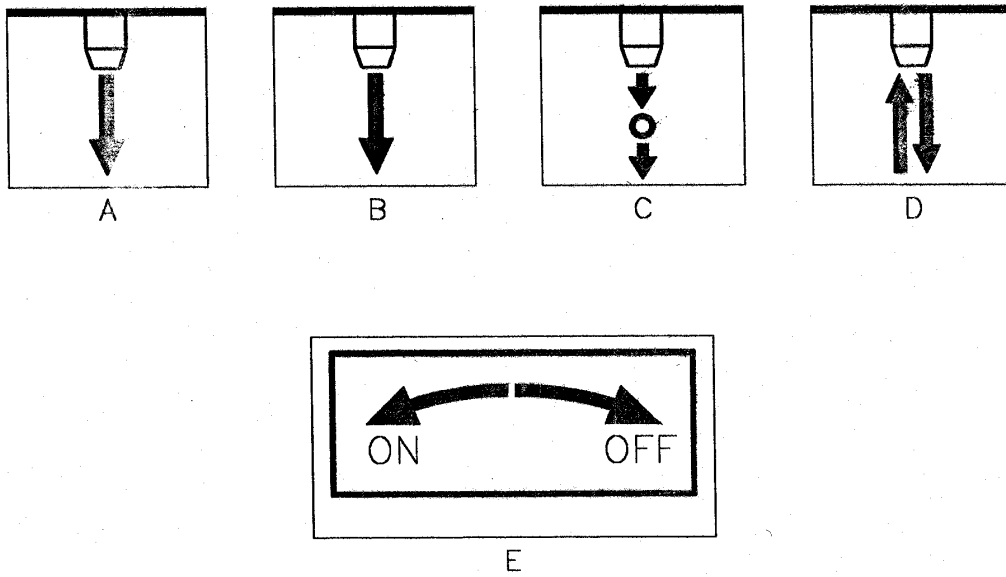

FIG. 6-5B
2. THERE ARE 5 FLUSHING OUTLETS. (FIG. 6-5B)